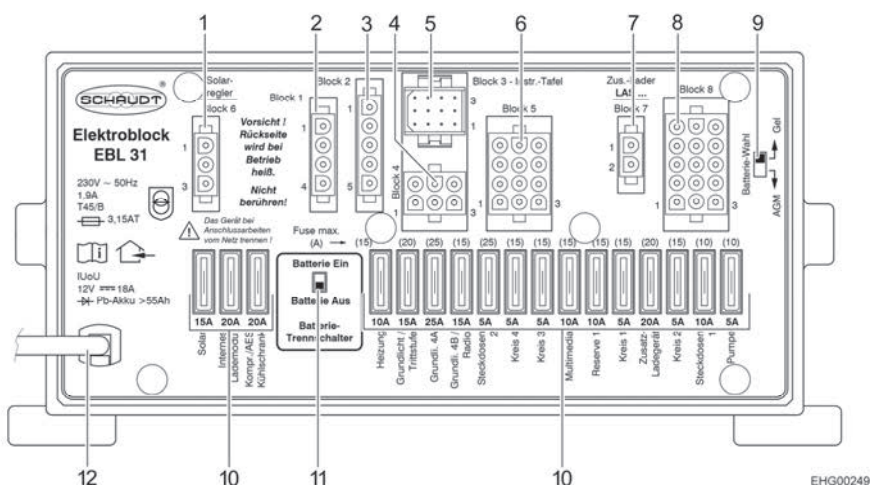

Fig. 64 Transformer/rectifier (EBL 31)
- ▷ To disconnect **all** electrical 12 V appliances from the power supply and prevent discharge of the living area battery, set the battery cut-off switch (Fig. 64,11) to "Batterie Aus" (battery Off) on the transformer/rectifier.
- ▷ Appliances such as the charger, the solar charge regulator, the panel, or similar, take power from the battery, even when the 12 V main switch has been switched off on the panel (Fig. 65,6). Therefore, you switch the battery cut-off switch (Fig. 64,11) on the transformer/rectifier to "Batterie Aus" (battery Off) when the vehicle is not used for a long period of time.